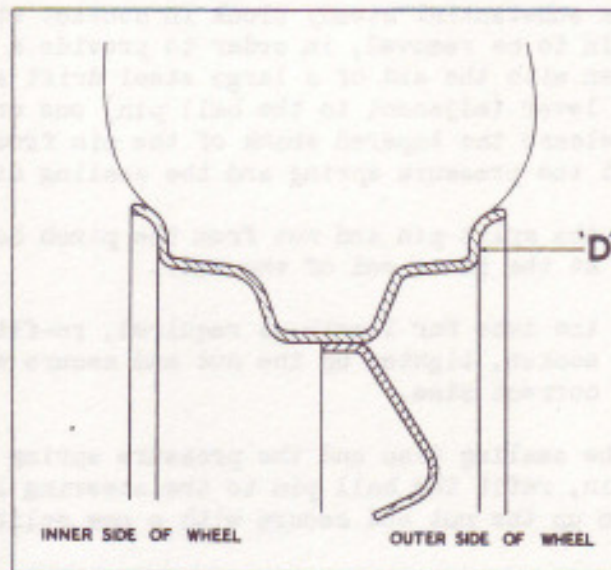

Fig. 11. Section through wheel rim showing flat face 'D'.
- (iii) Spin the wheels and test for sideways run-out ("high-spot") of the rim on the outer side of the wheels. It is important that this check is made on the flat side of the rim of each wheel, i.e. at point 'D' Fig. 11 and not on the extreme edge (turned over lip) of the wheels. Mark each tyre with a chalk mark in line with the "high-spot" on the wheel. This operation will tend to correct for errors which might otherwise occur due to wheel run-out.
- (vi) With an adjustable trammel, measure the toe-in, make sure that the measurement is carried out at hub height and that the points of the trammel are placed against the flat side of the rim (point 'D' Fig. 11) and not against the turned over lip. It is important that no person should be in the car when the toe-in is being measured.